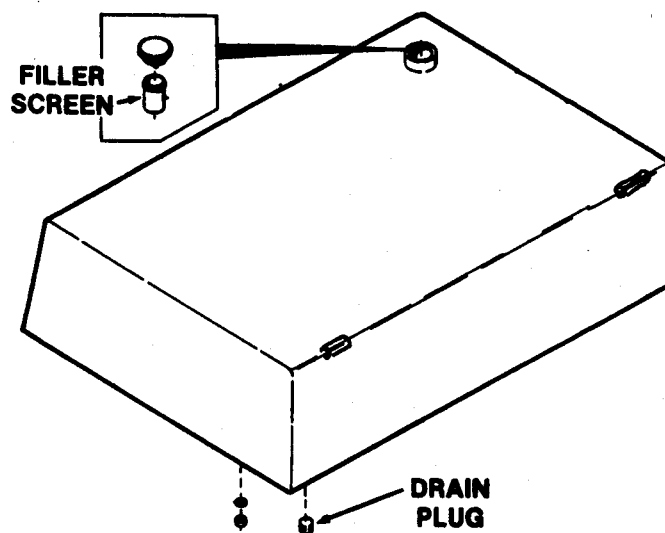

Figure 4. Hydraulic Oil Tank
To disassemble the parking brake caliper assembly, the tension spring (14, Figure 4) must be released; apply and keep pressure to item 3, remove items 10 and 11. Allow the spring to open out to its full travel by slowly releasing hand pressure on item 3.